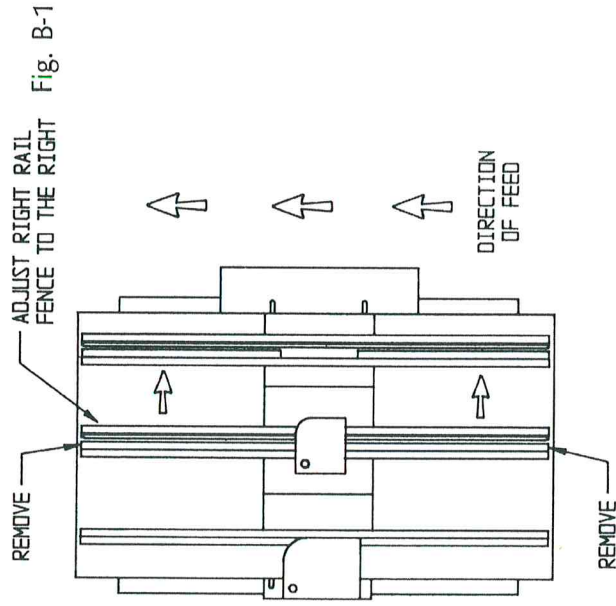

Fig. B-1
5. Adjust the PanelMaster. Remove the slide blocks from between the rail fences (the two fences in the middle). Adjust the right (when standing on the infeed side) rail fence to the right until the Crown Rail jig (with the stock clamped in it) will fit down between the fences snugly (see fig. B-1). Secure the fence. The cutterhead should not need to be adjusted! Check to be sure you adjusted the correct fence, so the cutters are positioned under the wood, the jig and template are above the rub bearing.